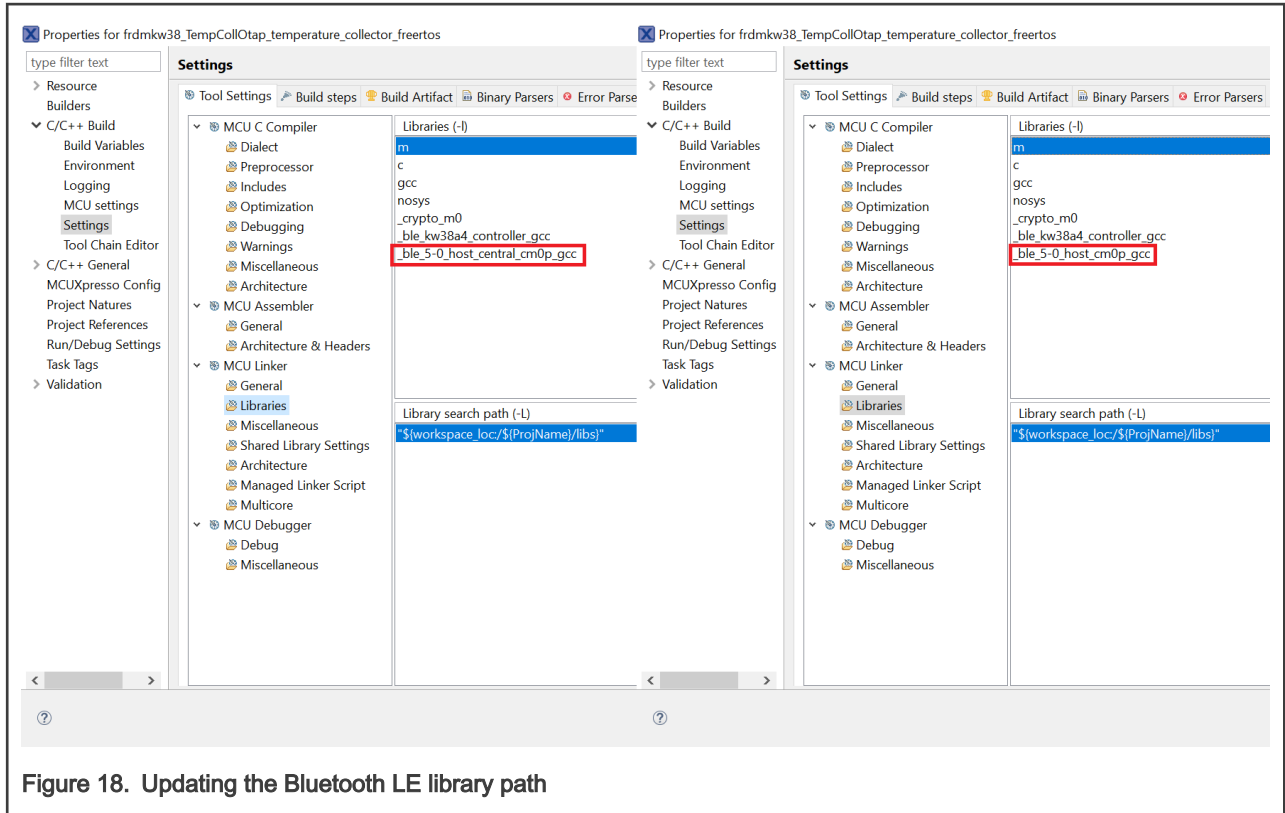

Figure 18. Updating the Bluetooth LE library path
7. Open the **MCU Linker -> Libraries** view. Remove the `_ble_5-0_host_central_cm0p_gcc` library and replace it with the `_ble_5-0_host_cm0p_gcc` library, as shown in Figure 18. Then, click **OK** to save the changes.